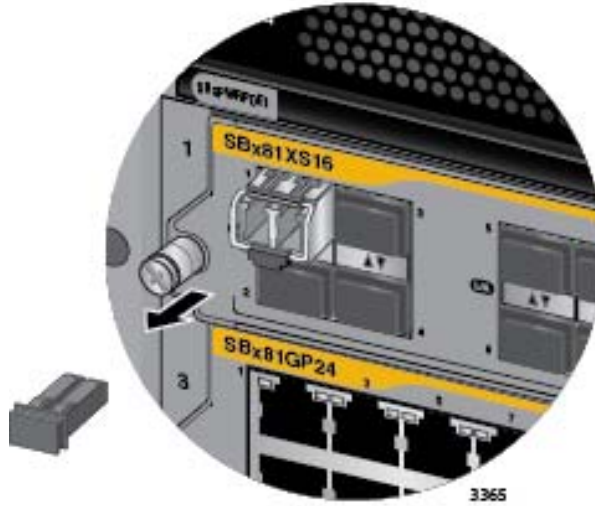

Figure 100. Removing the Dust Cover from a Transceiver
3. Remove the protective cover from the + transceiver. Refer to Figure 100 on page 171.